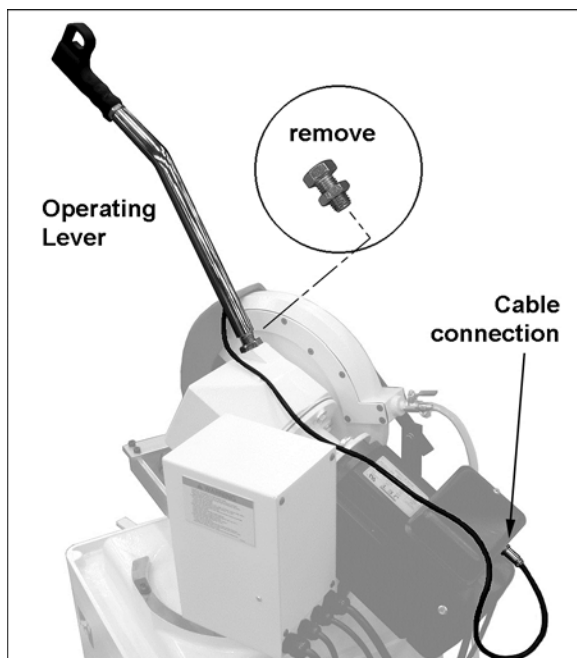

Figure 3
Refer to Figure 3.
2. Insert the operating lever into the threaded fill hole. Rotate it a good distance into the hole, and make sure the final orientation of the handle grip is in a comfortable position for the operator, as shown in Figure 3.